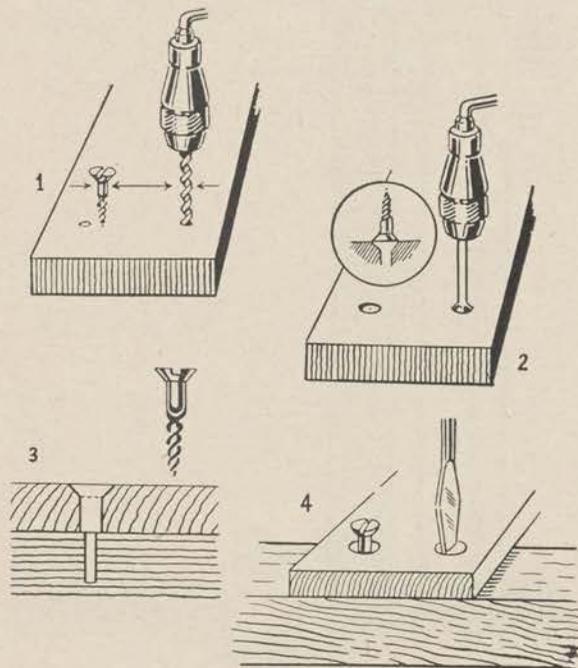

Figure 84.
c. The professional way of screwing two boards together is illustrated (fig. 84). First, holes are